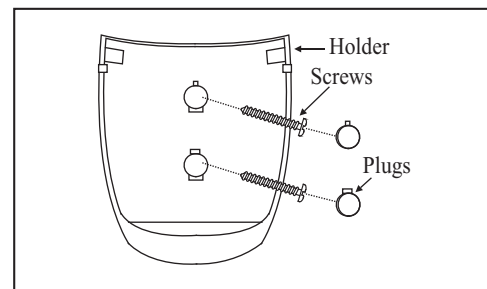

Figure 25
1. Remove the two plugs from the holder. Note that the plugs have unique tabs that allows them to fit only in one hole. (Fig. 25)